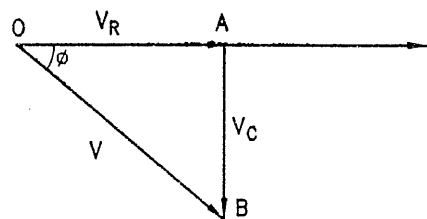

FIG. 2.51 : PHASOR DIAGRAM OF R-C SERIES CIRCUIT
- Referring to the Fig. 2.51, the magnitude of the applied voltage is given by